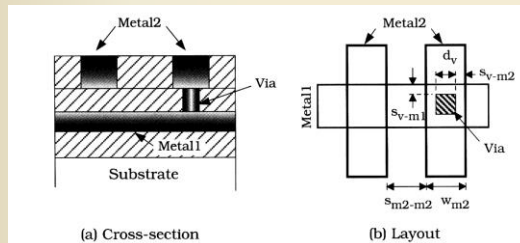

Figure 5.20 Metal1-Metal2 connection using a Via mask
- ◆ Figure 5.20(a) illustrates the use of a via to connect Metal1 to Metal2
- ◆ The mask layout is shown in Figure 5.20(b)